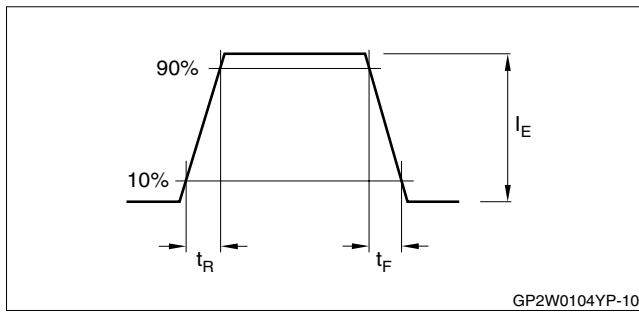

Figure 10. Output Waveform Specification (Emitter Side)
6. BR = 115.2 kbps, $\phi \leq 15^\circ$, $V_{IHTXD} = 2.8$ V. See Figures 10, 11, and 12.